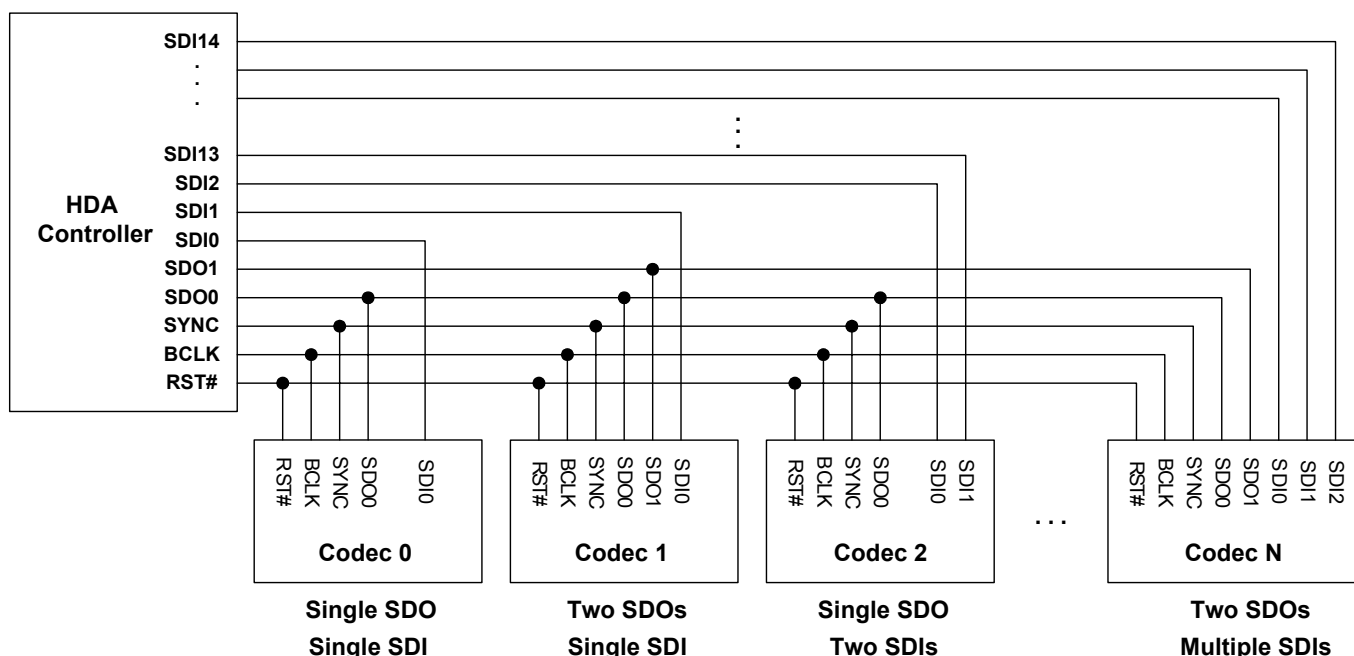

Figure 6. Signaling Topology
Figure 6 shows the possible connections between the HDA controller and codecs:
The connections shown in Figure 6 can be implemented concurrently in an HDA system. The ALC260(D) is designed to receive a single SDO stream.